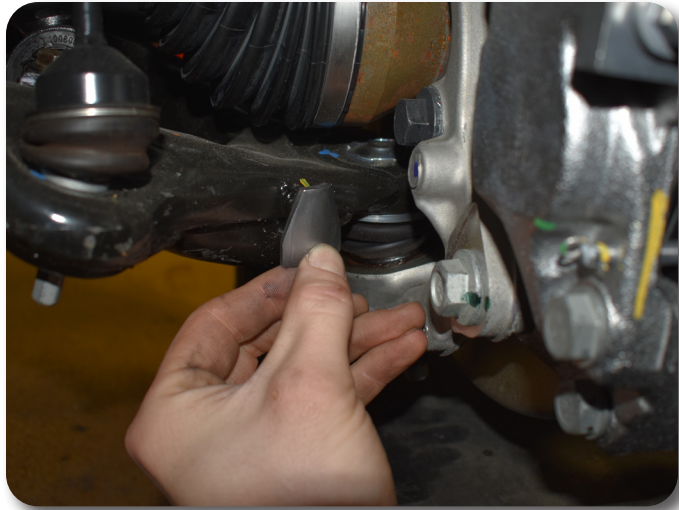

Figure 52
82. **OPTIONAL:** Weld steering stop on to lower control arm as shown Fig. 52.